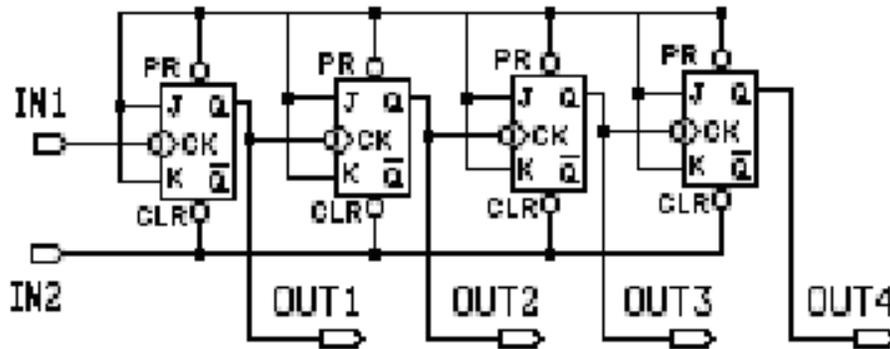

Figure 7-7
1. four bit binary up asynchronous counter circuit, as Figure7-7